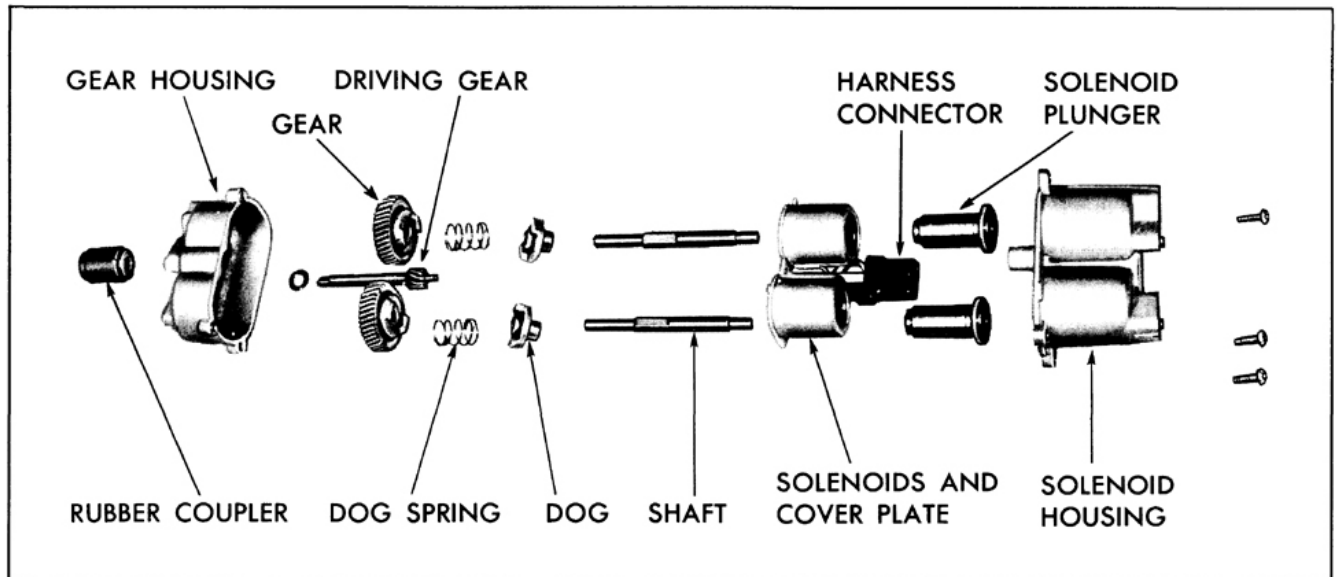

Fig. 16-387 Power Seat Transmission
2. Remove screws securing gear and solenoid housings together; then, carefully separate housings and remove component parts of transmission assembly. (Fig. 16-387)